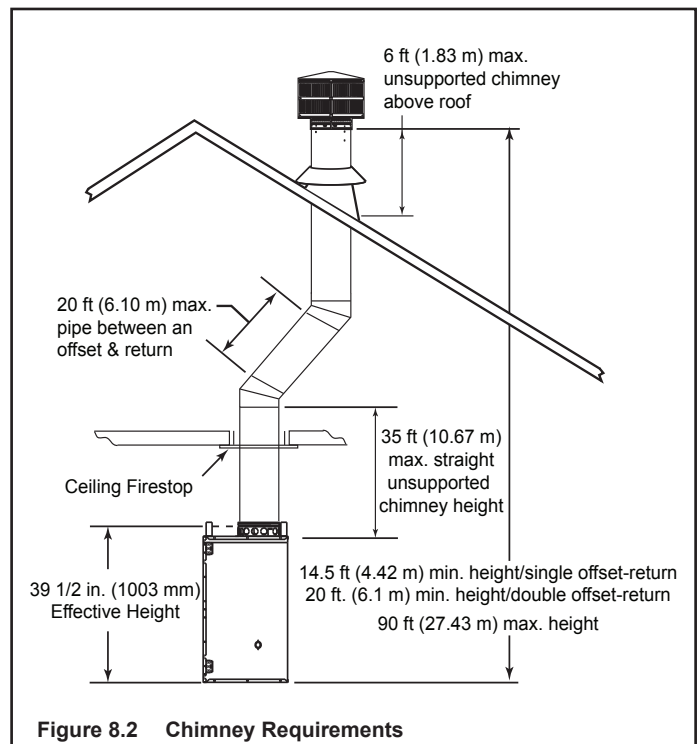

Figure 8.2 Chimney Requirements
- Subtract the effective height of the fireplace assembly (see Figure 8.2) from the total vertical height to determine the overall height of the chimney installation.
- Create a schematic for your application similar to Figure 8.2 showing components required (referring to Table 8.1). Figure 8.1 identifies those components and where used.